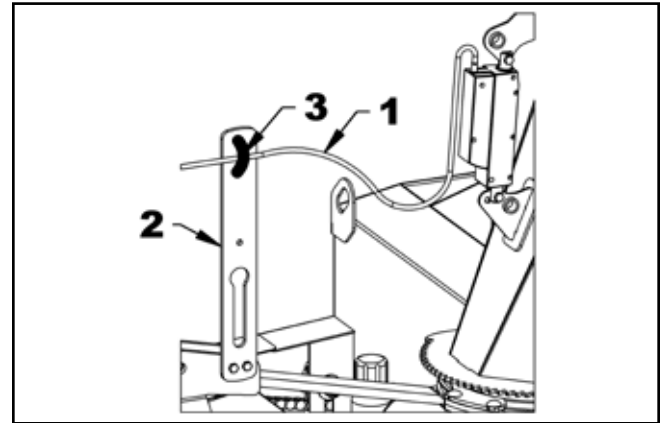

**Figure 39.** Attach Hose Support
- Figure 39: Attach the hose support (1) to the right bracket (2) of the upper three-point hitch using two 3/8"NC x 1-1/2" hex bolts and nylon insert locknuts (3, 4).